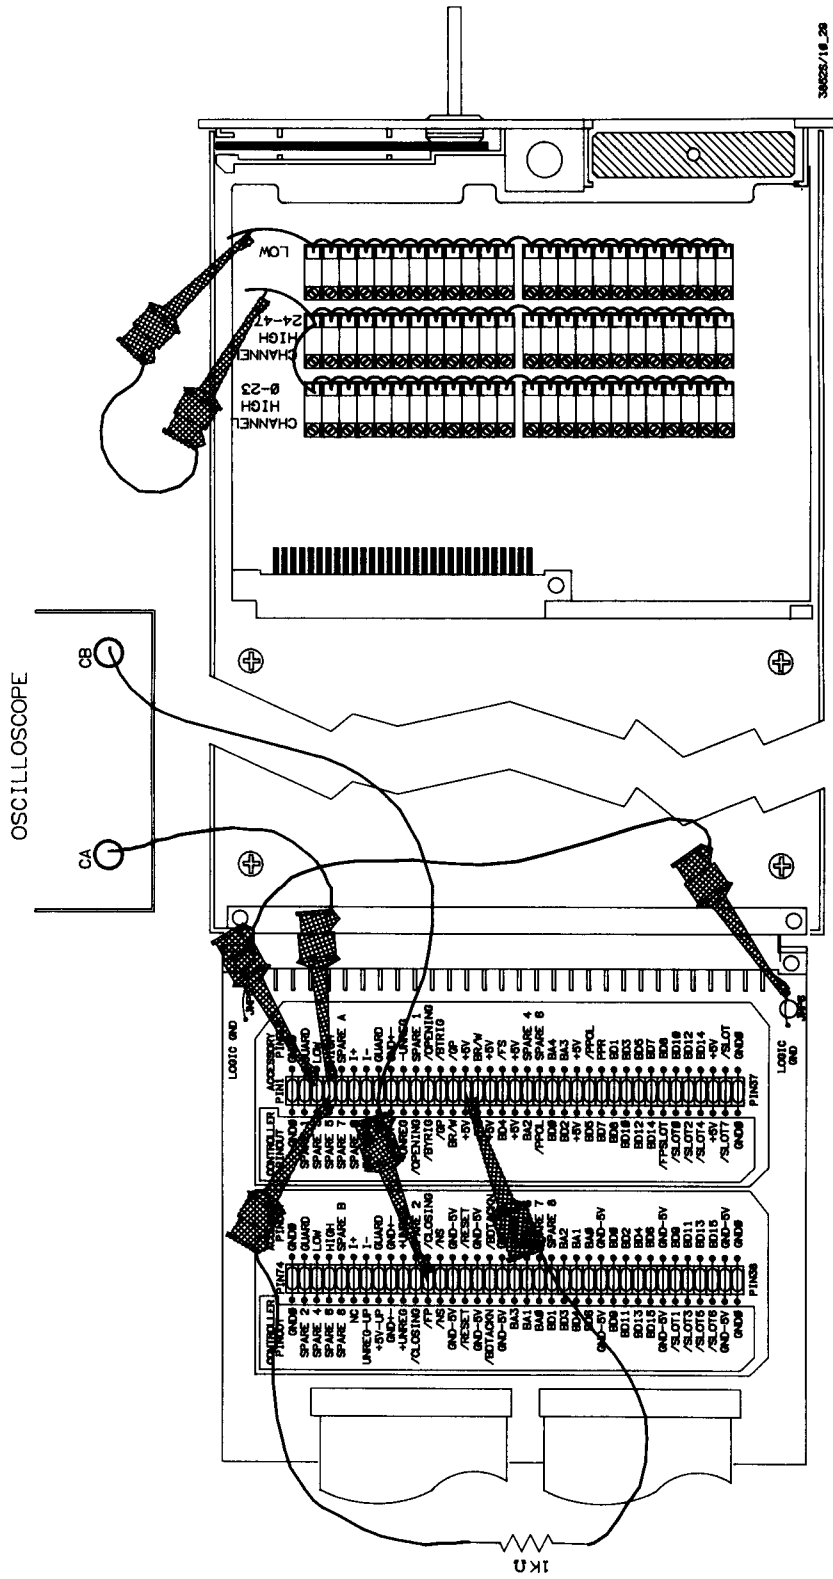

Figure 10-29 HP 4471 2A Closing Time Set-Up
1. Move the channel B oscilloscope probe to the CLOSING connection on the service module. The Closing Time test set-up is shown in Figure 10-29.